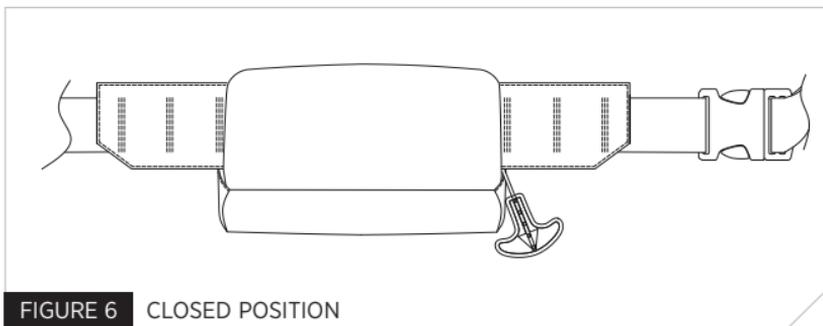

FIGURE 6 CLOSED POSITION
6. Tuck in the bottom of the back flap and secure the Velcro™ (see Fig. 6).